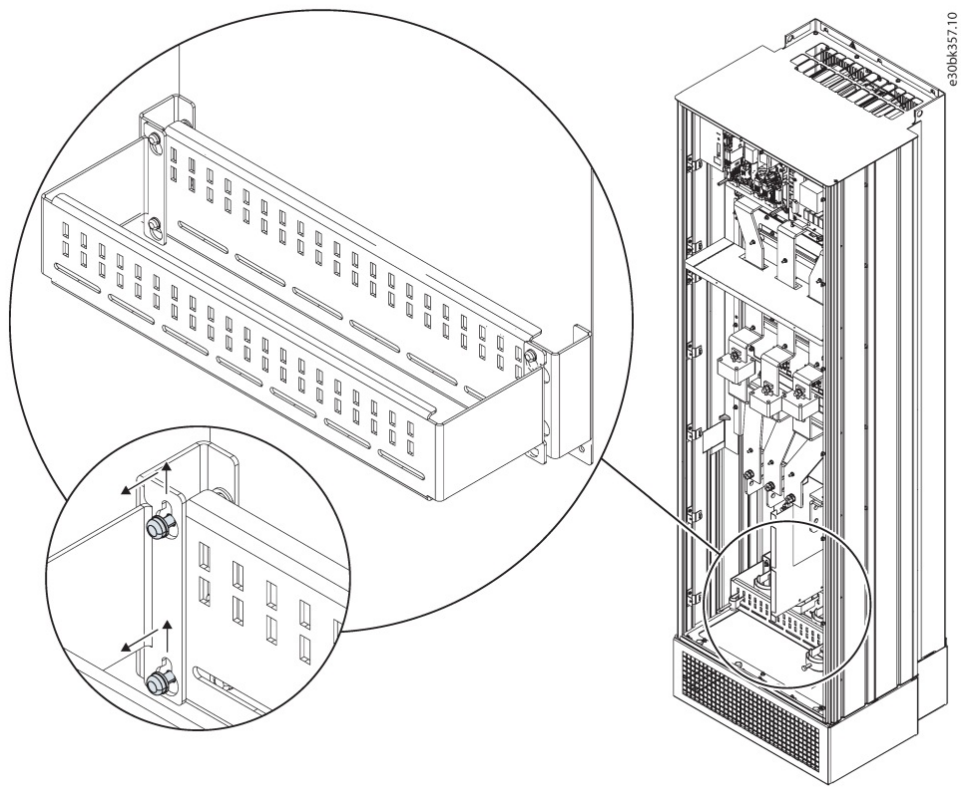

Figure 2: Outer Cable Bracket Removal
- c. Pull the bracket forward to remove it. See Figure 2.